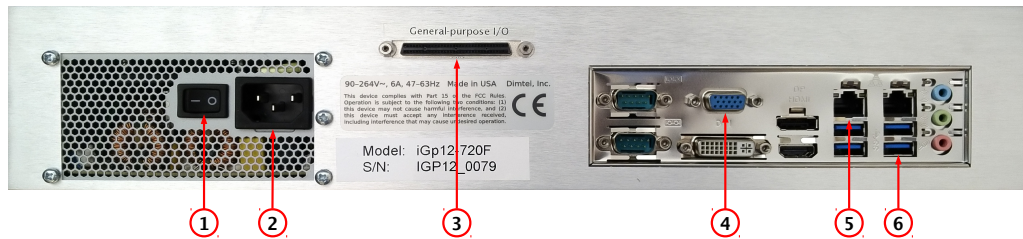

Figure 4: Rear panel features
6. Connect a USB keyboard (Fig. 4, item 4);
7. Connect a video monitor (Fig. 4, item 5);
Setup program is included in the IOC for configuring the important features of the iGp12-1332F. The program can be executed locally or remotely. For local execution one must first connect a keyboard (Fig. 4, item 4) and a video monitor (Fig. 4, item 5) to the system. For remote setup, use `ssh` after system bootup to establish connection. In both setup methods the user must login as `root` (initial password is supplied with the system). If the newly received iGp12-1332F must be configured remotely (when, for example, a keyboard or a monitor is not available), such configuration can be performed